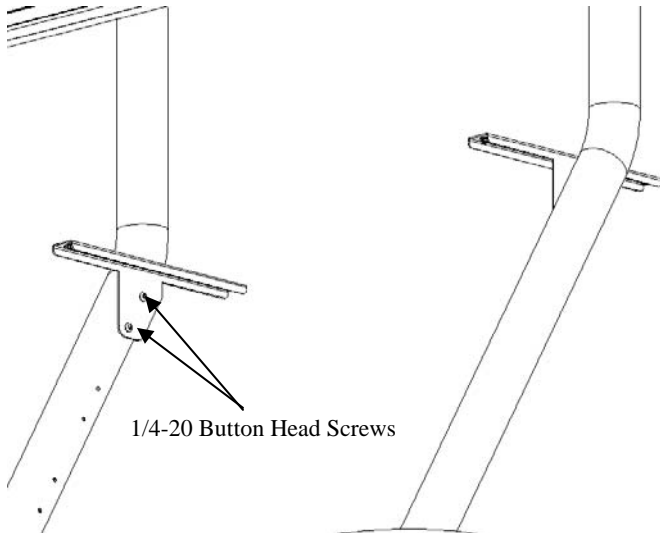

Figure 1
1. Loosely attach shelf brackets to upright posts (see Figure 1) using four 1/4-20 button head cap screws. Do not fully tighten the bolts.